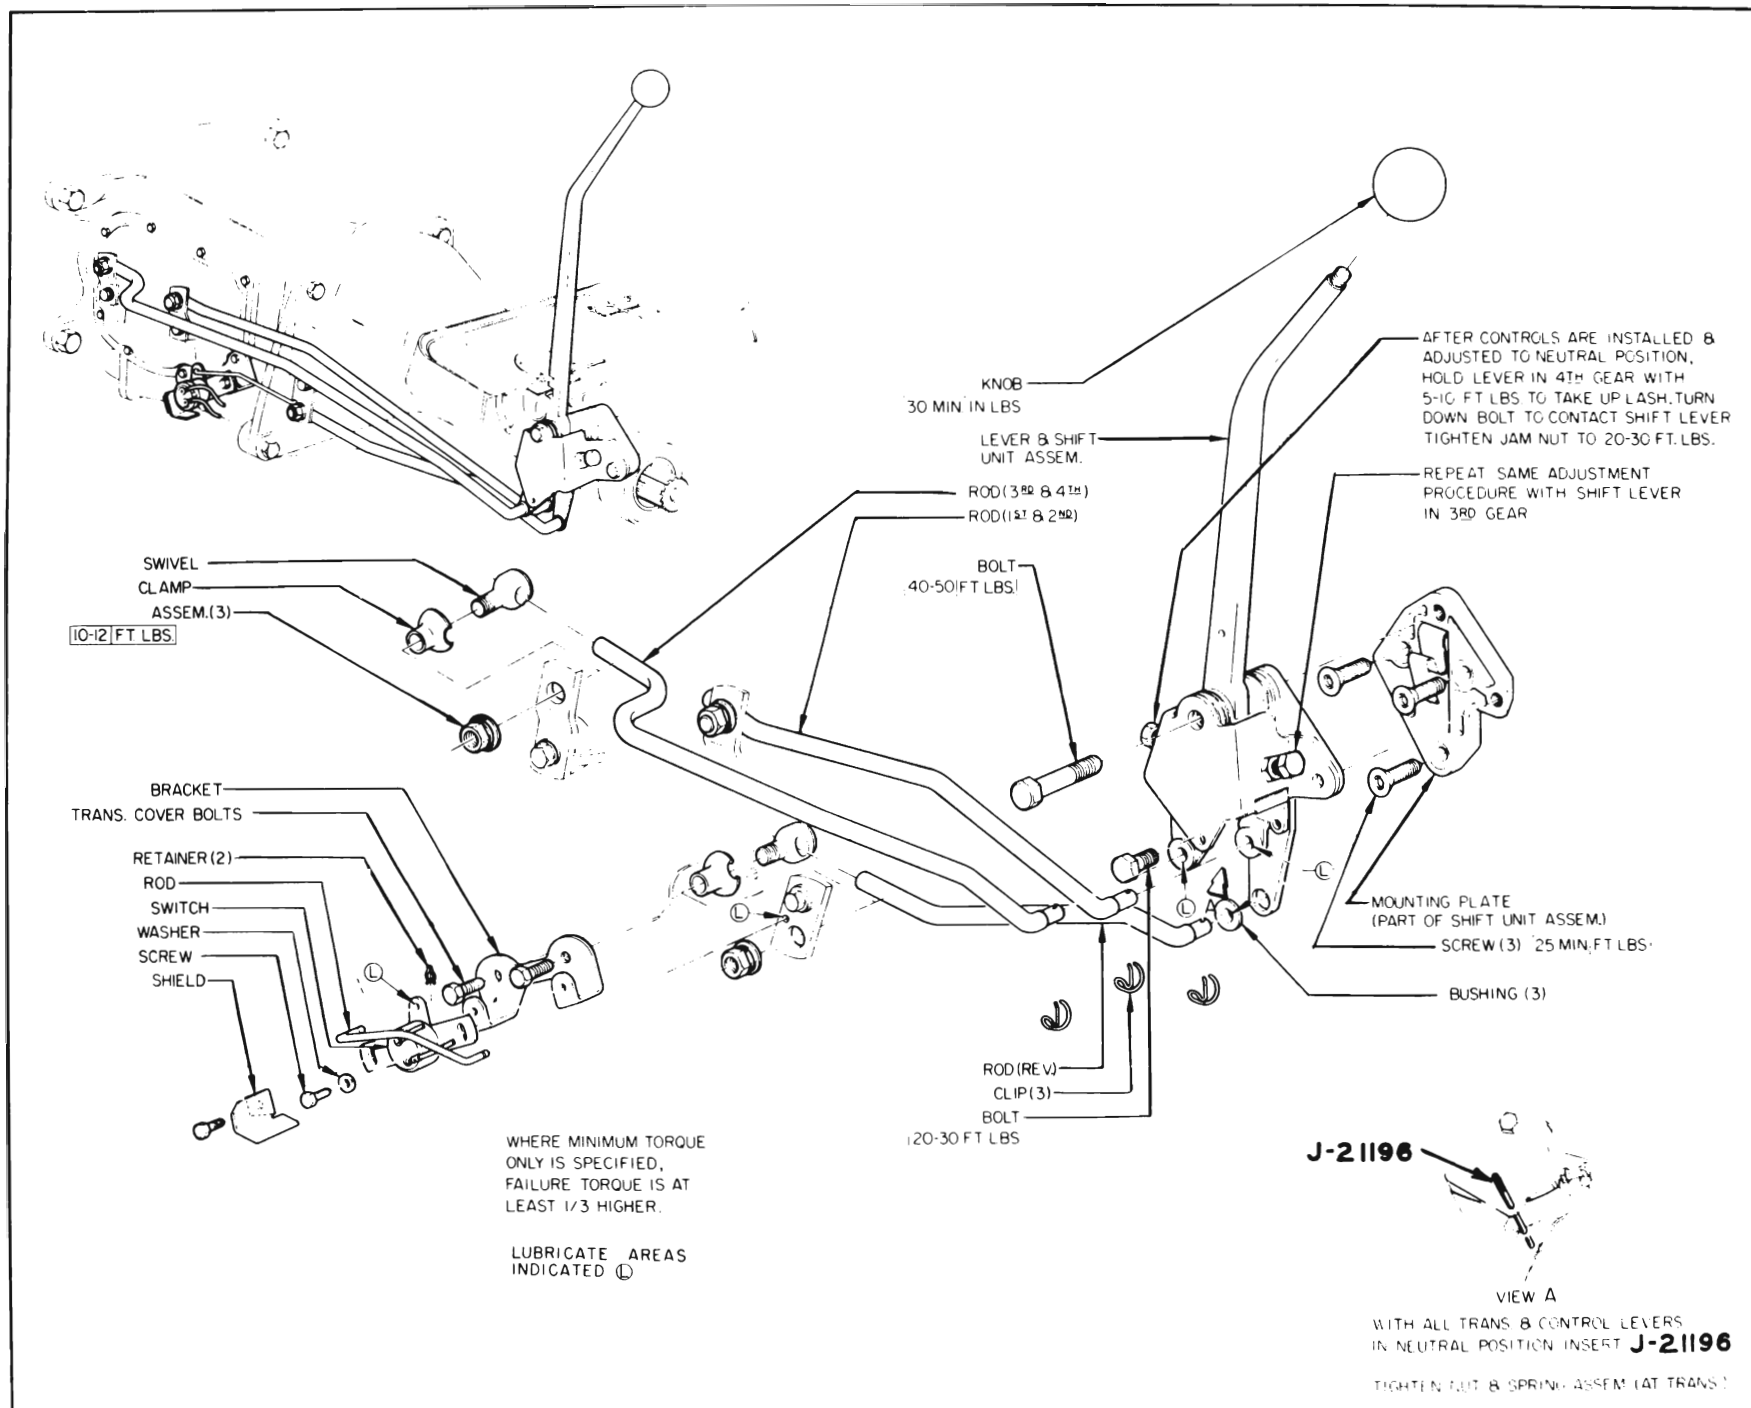

Figure 4-16—Four Speed Transmission Control
In reverse speed, both clutch assemblies assume a neutral position. The reverse speed gear is moved forward to engage the rear reverse idler gear, which is being turned by the countergear. Because the reverse speed gear is splined to the mainshaft, this engagement causes the mainshaft to turn; however, because power flows from main drive gear to countergear and through reverse idler gear to reverse speed gear, the direction of rotation will be opposite that of the engine. See Figure 4-16.
The 4-Speed transmission gearshift linkage (Figure 4-16), utilizes three shift rods and levers. A simple Gauge Pin J-21196 will aid in making the proper adjustments. The adjustment can be made without the gauge pin by having an assistant hold the manual shift lever in the neutral position.
1. Loosen shift rod adjusting clamps. See Figure 4-16.
2. Place transmission in neutral and install Gauge Pin J-21196 in position. See Figure 4-16.
2. Disconnect first, second, third and fourth shift rods from levers. See Figure 4-16.